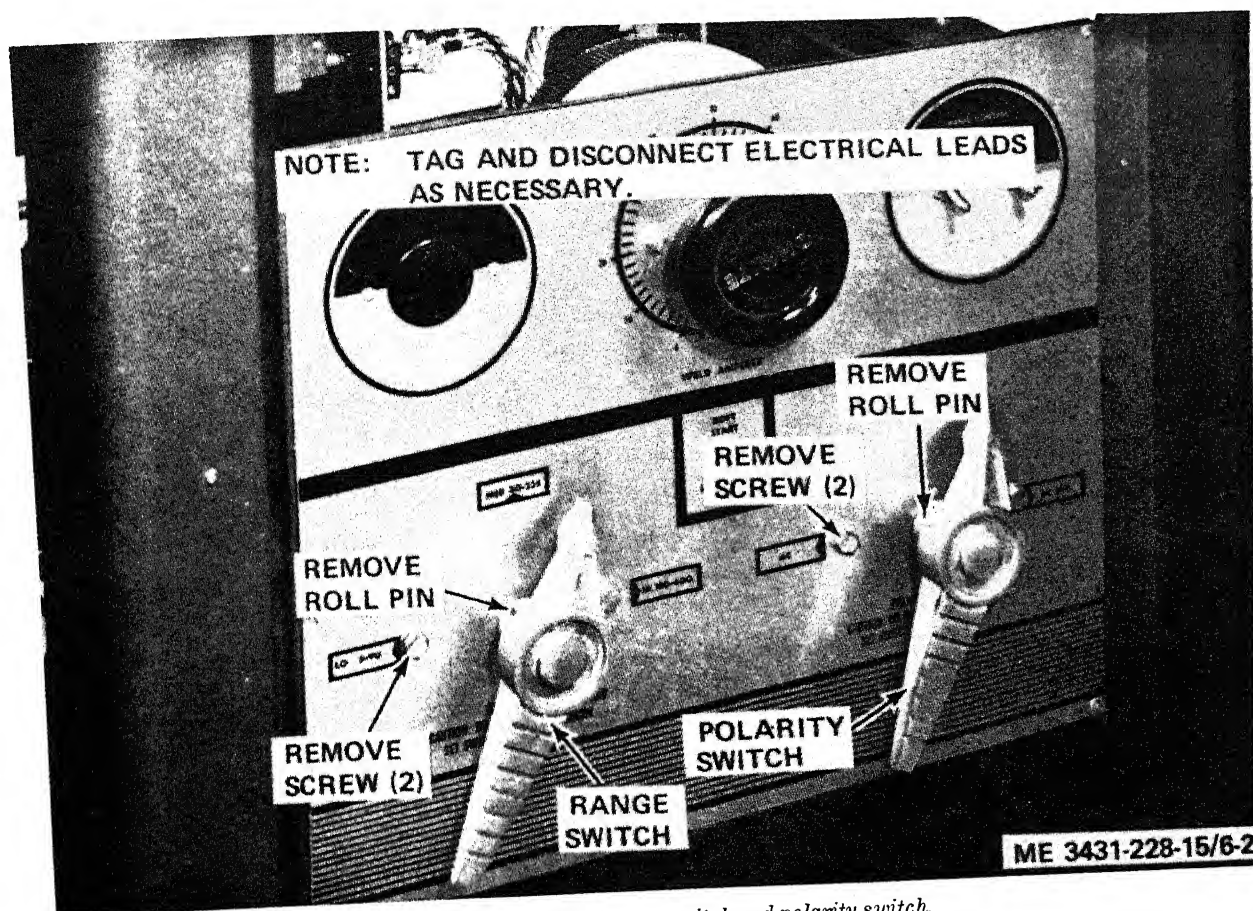

Figure 6-2. Range switch and polarity switch, removal and installation.
(5) Refer to figure 6-2 and remove the switches from the rear of the panel.
- (1) Refer to figure 6-2 and install the switches.
- (2) Install the screws around the bottom edge of the front panel.
- (3) Install the top and housing (para 3-20).
- (4) Install the timer and high frequency drawer (para 3-19).